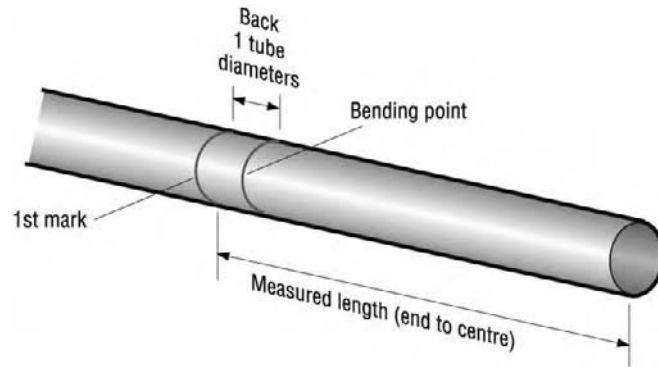

Figure 3.10 Bending point for spring-loaded 90° bend
- Then the correct sized, lubricated spring is inserted and bent to the required angle. With a bend radius equal to 4 diameters, the 'gain' is 1 tube diameter. Figure 3.10 shows